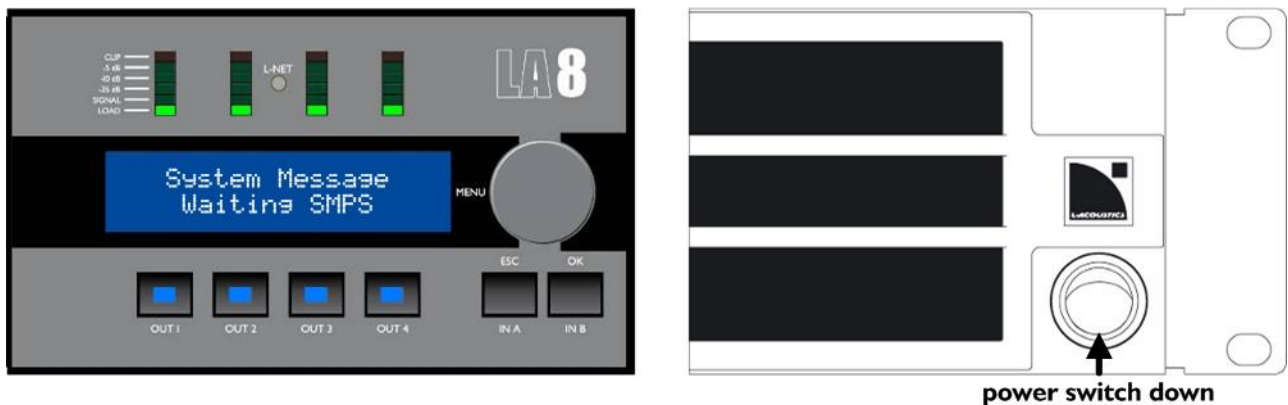

Figure 14: Shutdown sequence
- ▶ Press the power switch down to power the LA8 off (see Figure 14). The LA8 goes through a shutdown sequence coming with **Waiting SMPS** displayed on the LCD screen and the four **LOAD** LED lit until complete shutdown.